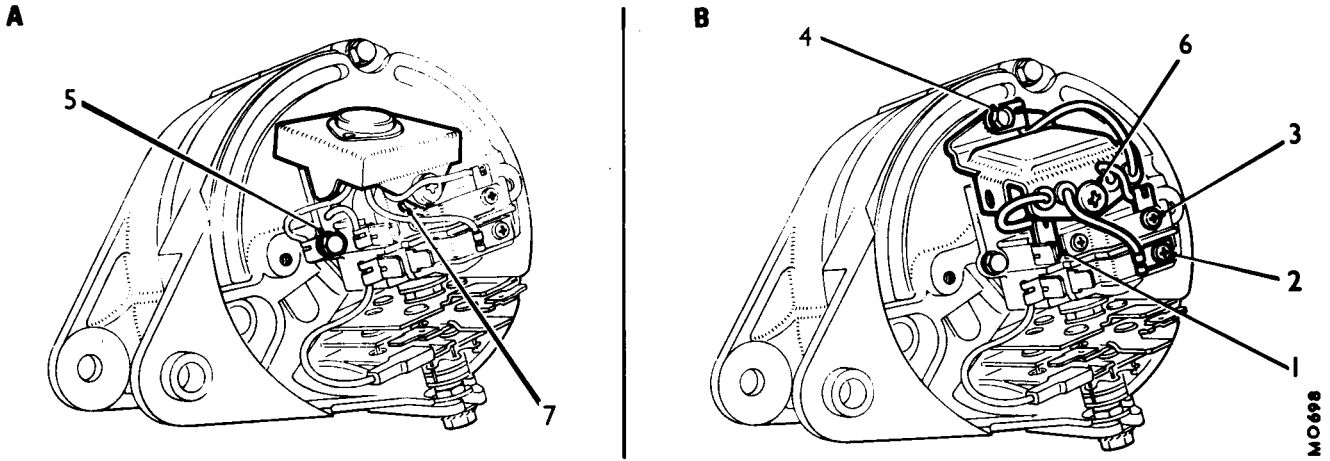

Fig. Nb.12
6. The leads from the in-built regulator to the alternator are unmarked. Refer to Fig. Nb.12 and then bridge the regulator field connector to a suitable earth, such as the earth-lead tag.